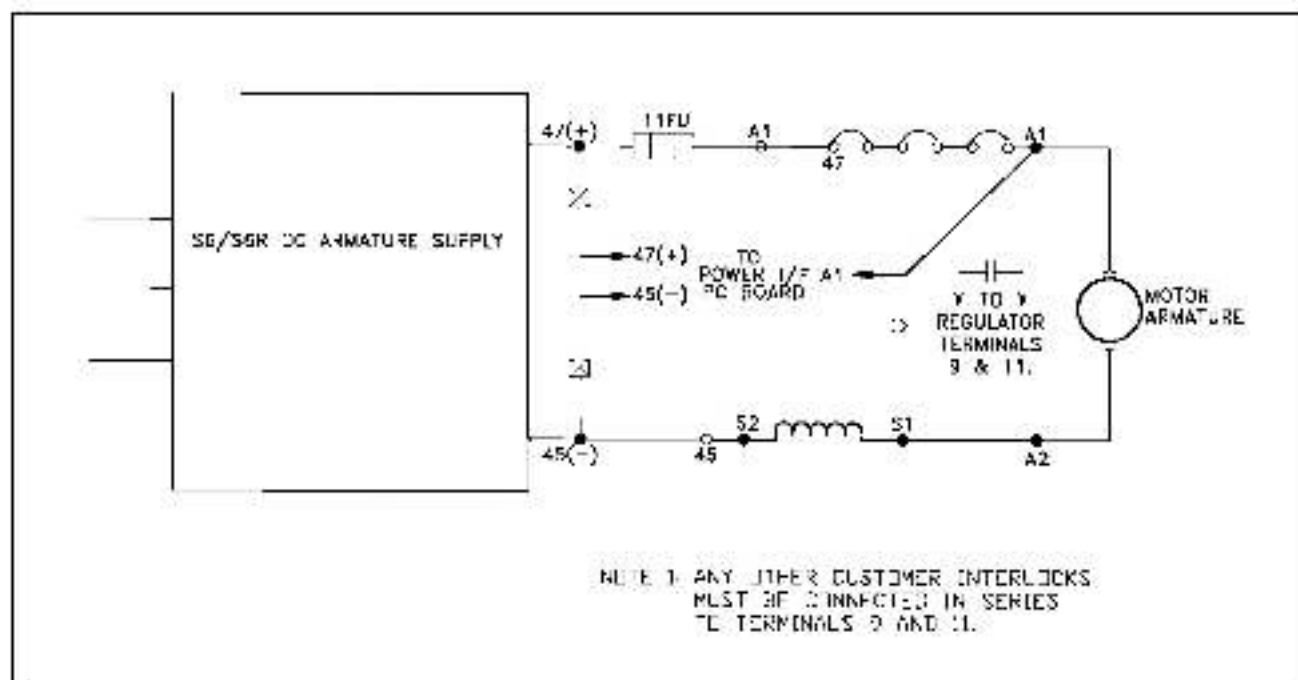

Figure 6 – Inverting Fault Circuit Breaker Connection Diagram
Step 2. Check and verify all wiring per Figure 6 before applying power to the drive. Ensure that wires are not in contact with hot components or sharp metal edges.